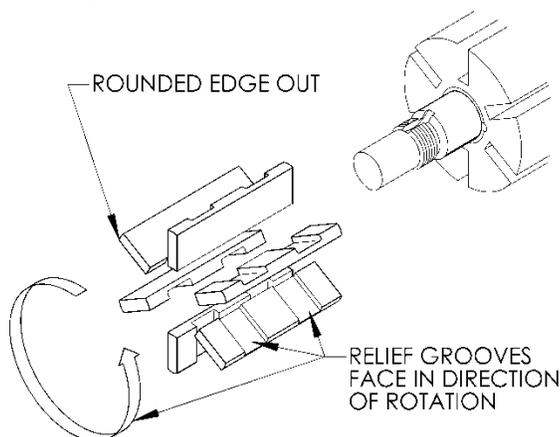
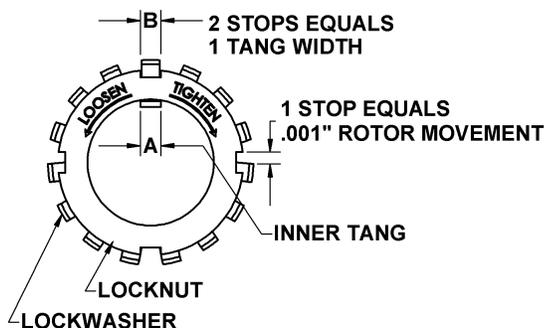

Figure 8 – Vane Installation
Figure 11 - Locknut Adjustment
3. Turn the shaft by hand until a vane (14) comes to the top (12 o'clock) position of the rotor. Remove the vane.
4. Install a new vane (14), ensuring that the rounded edge is UP, and the relief grooves are facing towards the direction of rotation. See Figure 8.
10. Remove the vanes (14) and push rods (77) from the rotor and shaft assembly. Inspect for wear and damage, and replace as follows:
- b. Partially install the non-driven end of the rotor and shaft (13) into the open side of the pump casing (12).
- c. Leave part of the rotor outside of the casing (12) so that the bottom vanes (14) can be installed and held in place as the push rods (77) are installed in the push rod holes of the rotor. Insert the new vanes into the rotor slots with the rounded edges outward, and the vane relief grooves facing TOWARDS the direction of rotation. See Figure 8.
- d. After the bottom vanes and push rods are installed, carefully insert the rotor and shaft (13) fully into the casing (12) and through the installed head (20).
- e. Install the remaining vanes (14) into the top positions of the rotor.
11. Install the inboard head with O-ring (72), mechanical seal (153), disc (71) and bearing (24) as instructed in steps 3 through 8.
12. Rotate the shaft by hand to engage the mechanical seal drive tangs, and to test for binding or tight spots. If the rotor does not turn freely, lightly tap the rims of the heads with a soft faced mallet until the correct position is found. Install all of the remaining head capscrews (21) for each head (20) and uniformly torque to 30 lbs ft (40.7 Nm).
It is important that the bearing locknuts (24A) and lockwashers (24B) be installed and adjusted properly. Overtightening locknuts can cause bearing failure or a broken lockwasher tang. Loose locknuts will allow the rotor to shift against the discs (71), causing wear. See Figure 11.